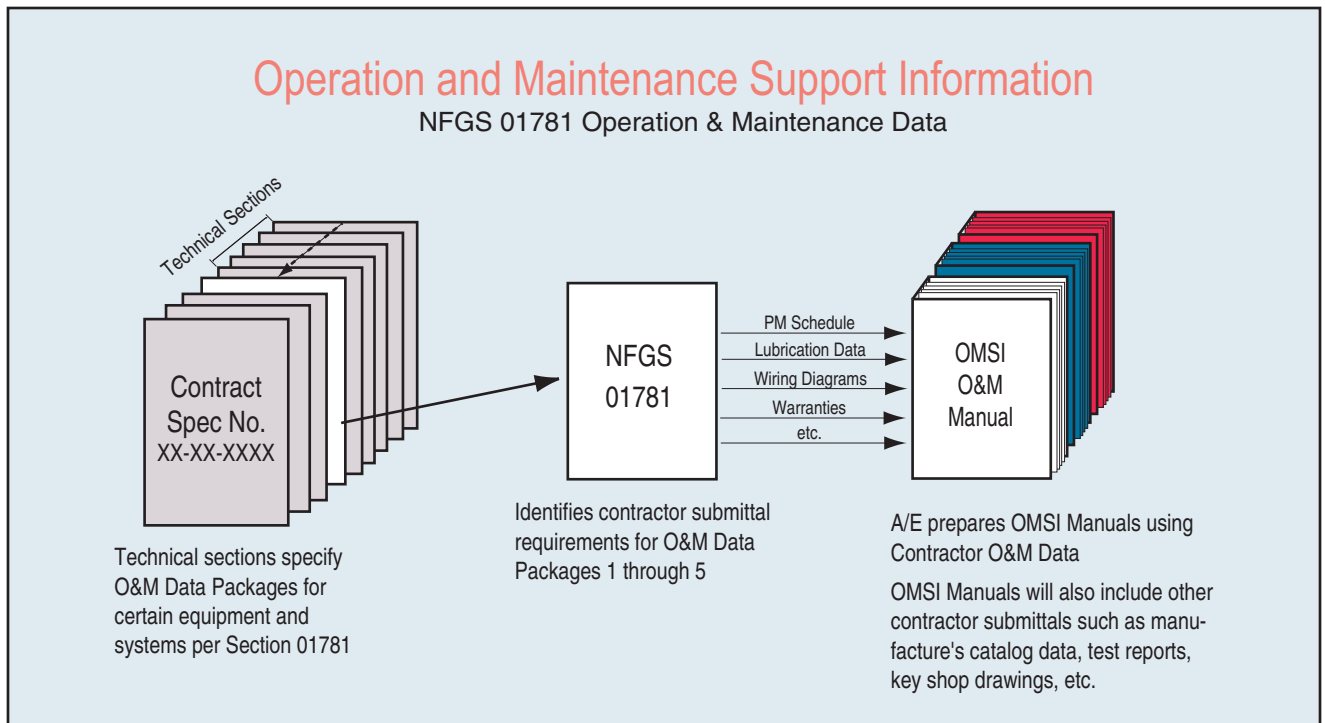

Figure 1
1. Become familiar with the project's specifications and drawings. Using the NAVFAC Guide Specification (NFGS) will ensure that adequate operation and maintenance information is provided by the construction contractor. In particular, **NFGS 01781, Operation and Maintenance Data**, must be included. (See Fig. 1. Below.)